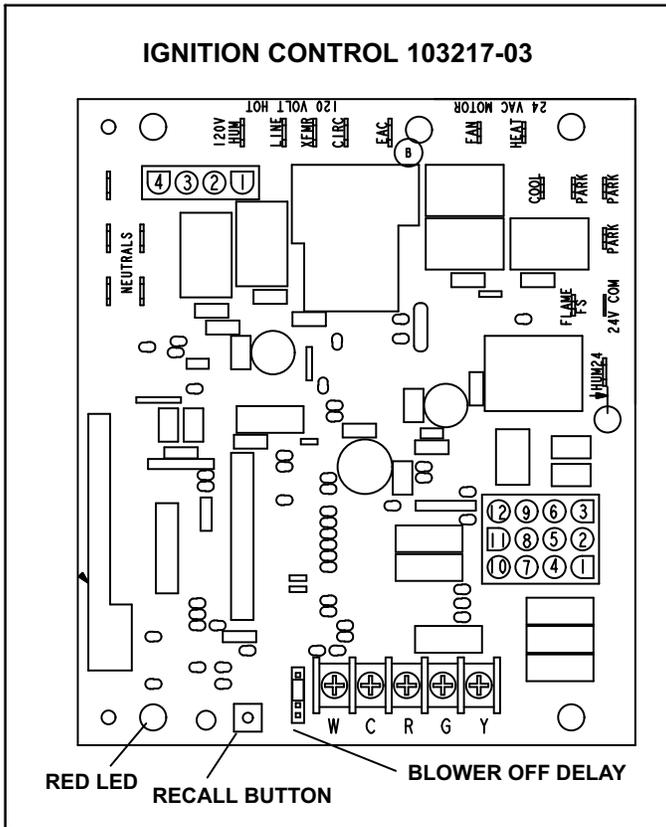

FIGURE 3
The hot surface ignition control system consisting of an integrated control (figure 3 or 5 with control terminal designations in tables 1, 2 and 3), sensor and ignitor (figure 7). The integrated control and ignitor work in combination to ensure furnace ignition and ignitor durability. The integrated control, controls all major furnace operations. The integrated control also features a RED LED for troubleshooting and two accessory terminals rated at (1) one amp. The nitride ignitor is made from a non-porous, high strength proprietary ceramic material that provides long life and trouble free maintenance.